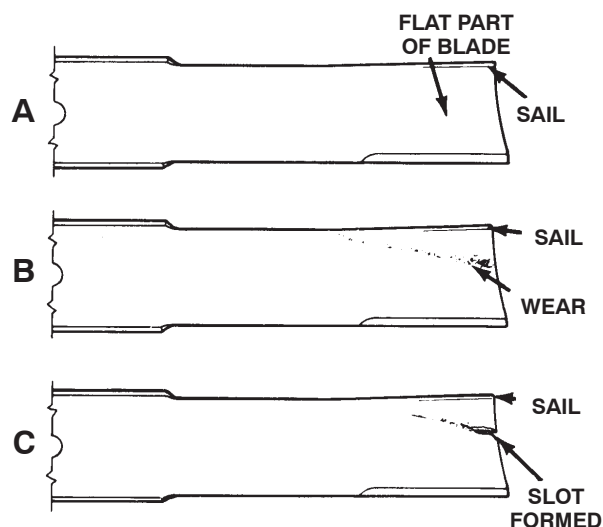

Figure 34
2. Examine the cutting ends of the blade carefully, especially where the flat and curved parts of the blade meet (Fig. 34-A). Since sand and abrasive material can wear away the metal that connects the flat and curved parts of the blade, check the blade before using the mower. If wear is noticed (Fig. 34-B), replace the blade.
If the blade is allowed to wear, a slot will form between the sail and flat part of the blade (Fig. 34-C). Eventually a piece of the blade may break off and be thrown from under the housing, possibly resulting in serious injury to you or bystanders.